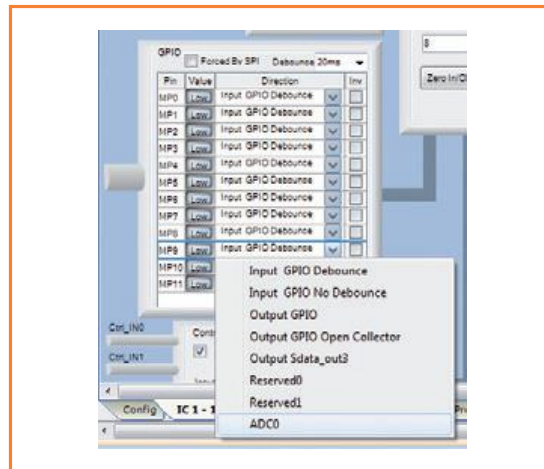

Figure 7.
- Select MP9 In the GPIO block and change "Input GPIO Debounce" to "ADC0", then return to "Config" tab as illustrated in **Figure 7**.